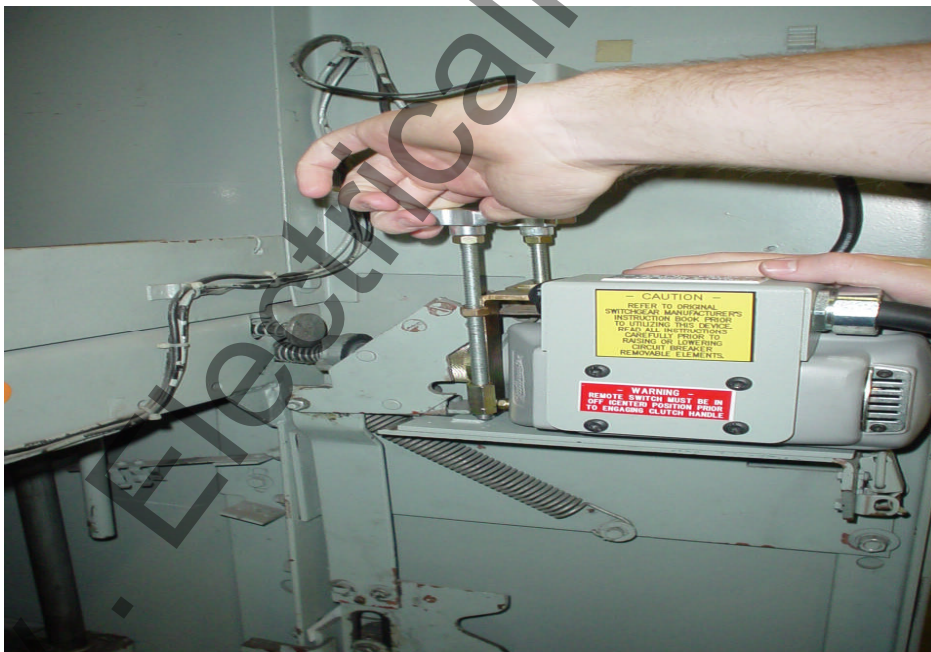

Figure 5 – Locking Hinge Assembly in Place
9. Then move the hinge assembly back to the center position & turn the left knob until the hinge is locked in place {Figure 5}. At this point you should be able to release the cubicle elevating handle & it should be locked into place. If needed turn the right hand knob to push the cubicle elevating handle further down to fully engage drive pawl & pick up the mercury switch.